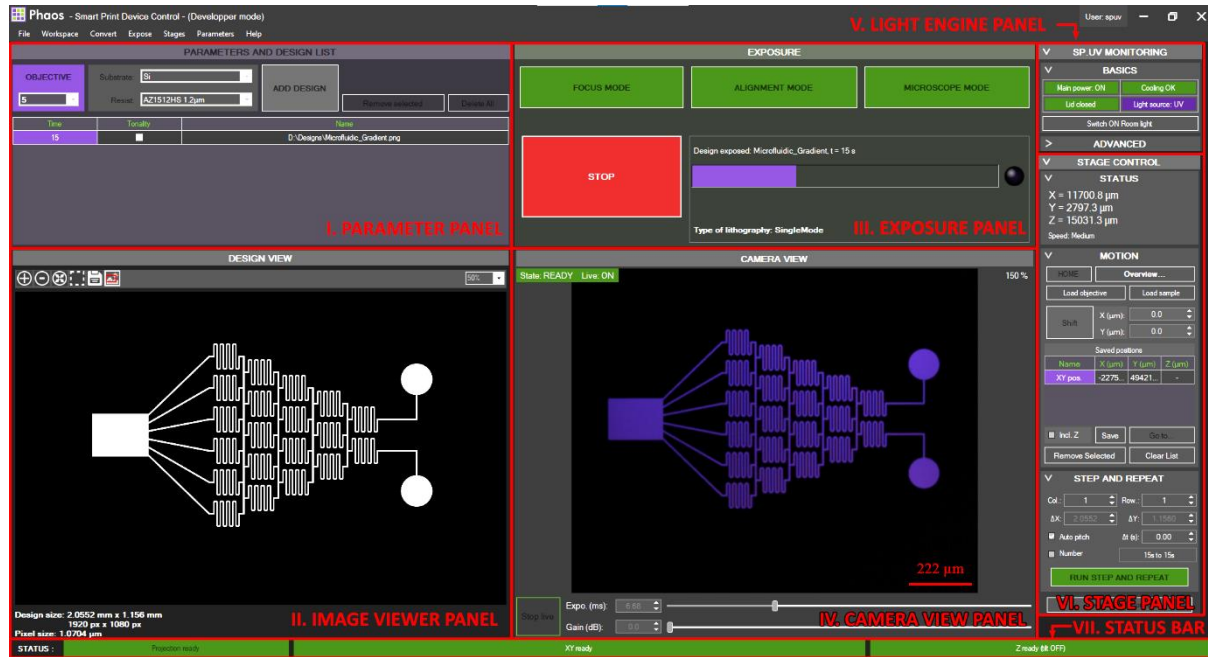
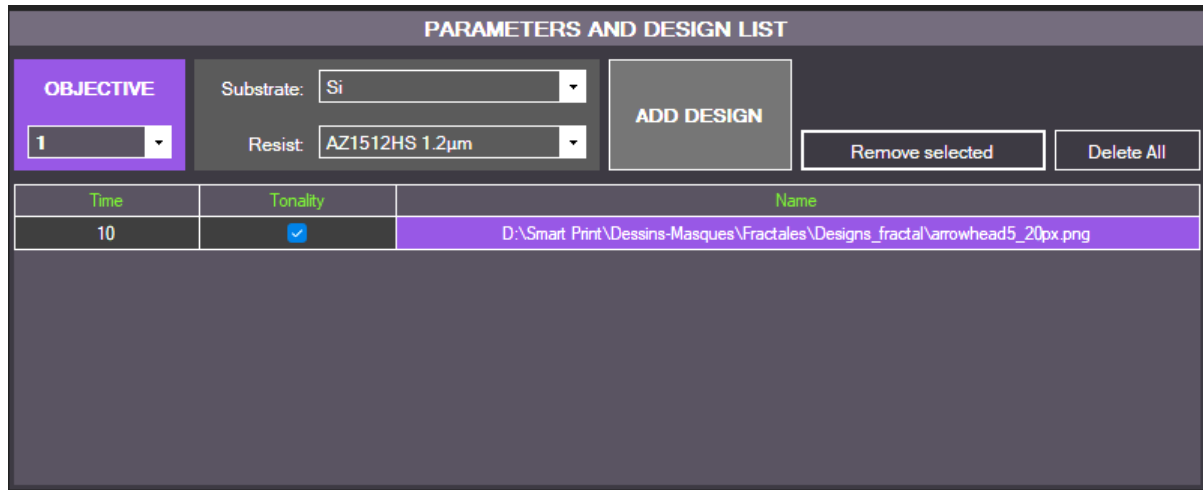

Figure 10 – Phaos main window
Figure 11 - "PARAMETER" panel
The software main interface is composed of 6 panels (Figure 10):
- On the **PARAMETER** panel (Figure 10), choose your **objective**, **substrate** and **resist** from the corresponding drop-down lists (Figure 11).
- Click on **FOCUS MODE** in the **EXPOSURE** panel (Figure 10). Ensure that the protection filter is unloaded (Figure 13 left).
- Load the sample to be exposed, click on **EXPOSE SELECTED DESIGN** button (Figure 10) in the **EXPOSURE** panel
- Click on **EXPOSE SELECTED DESIGN** button (Figure 10) in the **EXPOSURE** panel
- In the **PARAMETER** panel (Figure 10), choose an **objective**, a **resist** and a **substrate** in the corresponding dropdown lists.
For each design added in the design list (Figure 11), three parameters are displayed: